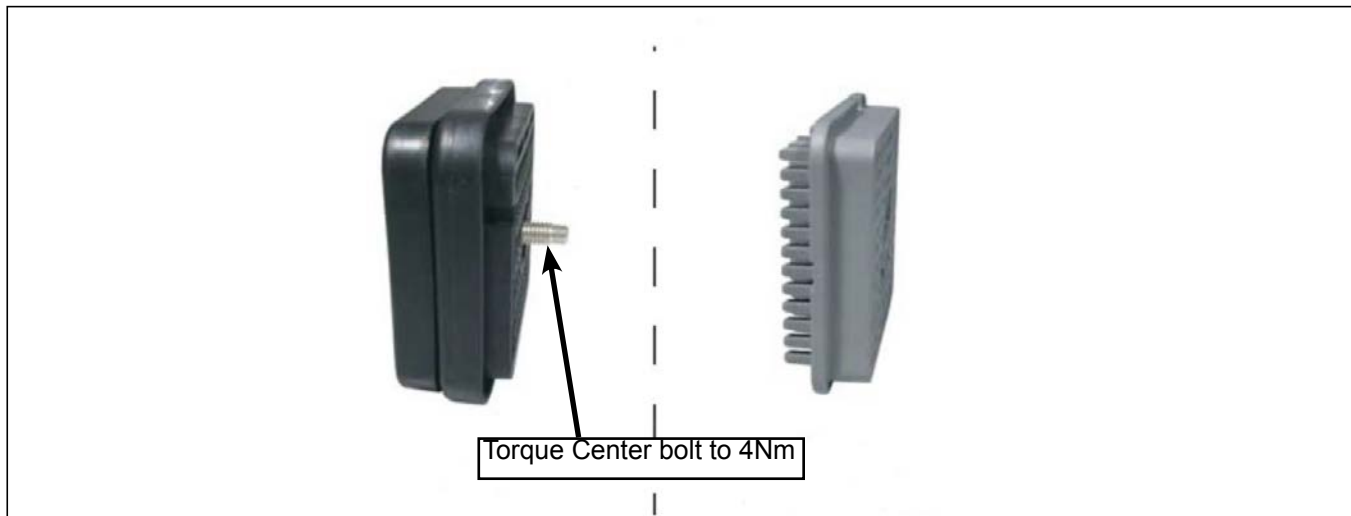

Figure 5 - X6499A Connector
- 1.5. Install wedge locks on connector X6499A plug (see Figure 5).
- 1.6. Install connector X6499A and torque center bolt to 4 Nm (see Figure 5).